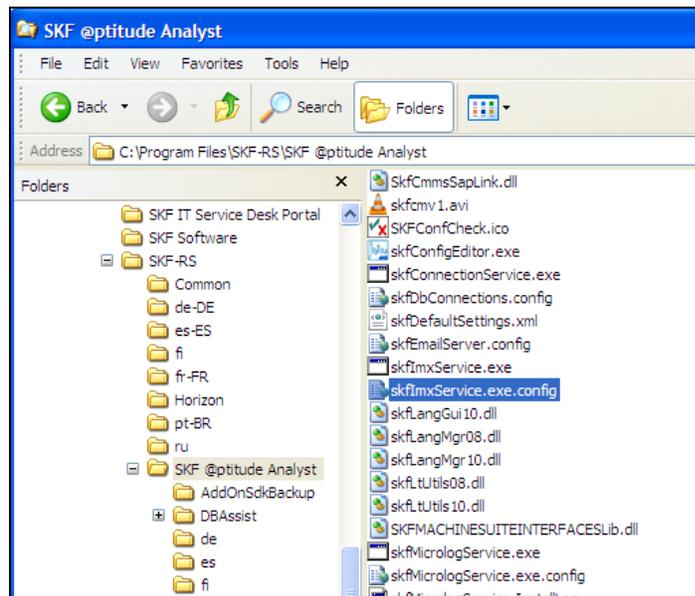

Figure 2. Locate skflmxService.exe.config file
2. Locate the file "skflmxService.exe.config." [Figure 2]